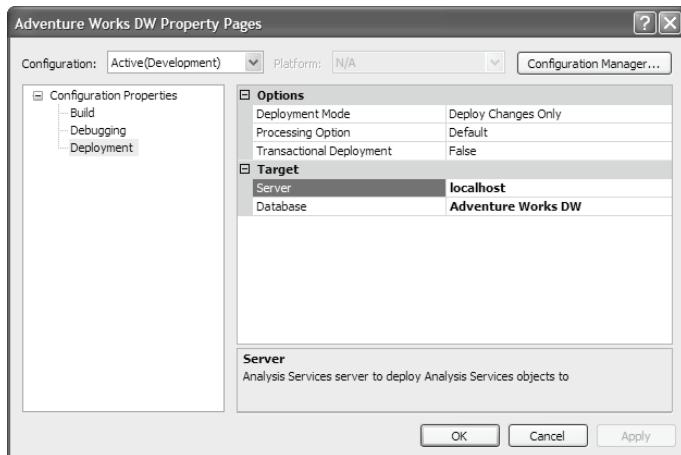

Figure 1.22 To propagate changes made in project mode, you need to deploy the project to the SSAS server specified in the Deployment Options window.
5. To propagate changes made in project mode, you need to deploy the project. Back to the Solution Explorer, right-click on the Adventure Works DW project node (not to be confused with the topmost solution node) and choose *Properties*. Expand the Configuration Properties and click the *Deployment* node (Figure 1.22).